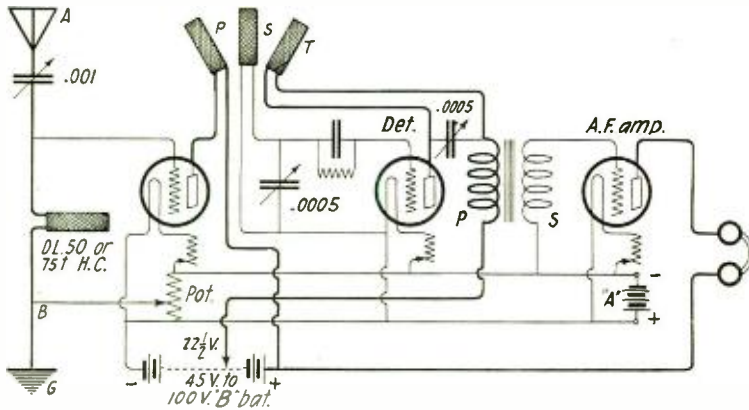
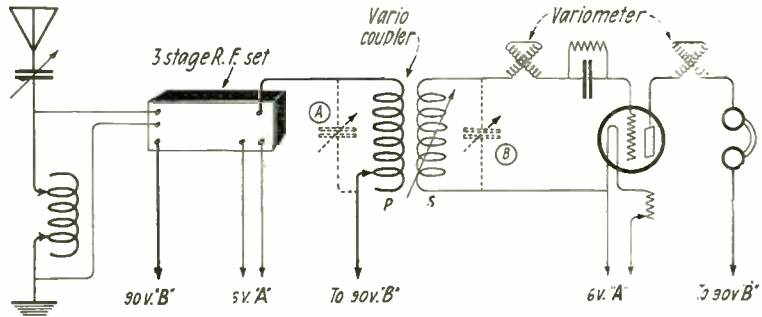

Figure 1—Hook-up of one step of radio frequency detector and one step of audio frequency amplification
Figure 2—Twin variometer regenerative set with 3 stages of radio frequency amplification
figure 1. By adding more tubes in the same way this may be made a three-stage, or any numbered stage amplifier. The audio frequency signal to be amplified is applied to the grid of the first tube. This audio voltage is repeated in the plate circuit of the first tube and an amplified voltage appears across the plate resistance R . This amplified voltage is then applied to the grid of the second tube through the grid condenser C_1 , and the voltage amplified still further by the second tube, and so on.
The proper values for the grid condensers and leaks are determined by definite considerations. If figure 1 is examined it will be seen that the grid circuit of the second tube is in parallel with the plate coupling resistance of the previous tube between points A and B. The impedance of the entire grid circuit must therefore be much greater than that of the plate resistance in order that the amplification be not influenced. The impedance of the grid circuit is determined by (1) the impedance of the internal grid-filament path of the
The same type of circuit and the same considerations apply for radio frequency amplifiers as for audio frequency amplifiers. But there is one great difficulty with radio frequency resistance coupled amplifiers at low wave lengths. The impedance of the grid-filament path of the tube is so low that it practically short circuits the plate coupling resistance, and hence destroys all amplification. To illustrate with a numerical example, suppose that the plate resistance R in figure 1 is 60,000 ohms. In present day tubes the tube capacity is of the order of .000010 microfarad, and at 300 meters the reactance is about 16,000 ohms. These 16,000 ohms are in parallel with 60,000 ohms plate coupling resistance, and therefore the effective plate impedance is decreased to less than 16,000 ohms with the result that amplification is considerably reduced. This effect is greater as the
There are several different arrangements of this circuit which have been published and tried out; for instance a variable condenser of the 23 or 43-plate type may be used across the primary coil, but this set works very well with a .0005 mfd. variable condenser connected across the secondary, and a similar variable condenser connected across the tickler. The latter should of course be of the vernier type, as this control is very critical. If but one stage of audio-frequency is used, as indicated at figure 1, then the audio frequency transformer utilized should have a fairly high ratio, say 5 or 6 to 1, and it will be found the most satisfactory to purchase a good sized transformer, several of which are now available on the market, have a lower resistance for one thing than the smaller transformers, and owing to the greater quantity of large sized copper wire used in winding the primary and secondary coils, together with the lower flux density in the iron core, the operating efficiency is improved all around,
Figure 1 shows a circuit which several friends of mine have been using for a year or more and which I have also tried out. This circuit provides one stage of inductively coupled radio-frequency amplification, and one stage of audio-frequency amplification. A second stage of audio-frequency can be added to operate the loudspeaker when desired. Referring to the diagram, it will be seen that a loop shunted by a .001 mfd. variable condenser, preferably of the vernier type, may be shunted across the grid and filament circuit at A and B, or else an out-
FROM the number of requests which we receive daily we gather that the one tube super is still popular as ever. Diagram of this set is shown in figure 1. The loop is tuned with a 23 plate variable condenser preferably with some means of vernier adjustment. A Hammarlund would be particularly fitting here. The two honeycomb coils 1500 turns each are a necessary part of the circuit.
IN figure 2 is shown an external oscillator which can be used with excellent results with most any radio frequency receiver. This oscillator consists of 40 turns of No. 24 double cotton covered wire wound on a three inch in diameter cardboard tube. Three eighths of an inch from this coil another winding is placed consisting of six turns of No. 20 double cotton covered wire.
ally resemble a boarding-house hash of all stations at once regardless of the frantic manipulation of the wavelength dial. This is due to some extent to the sensitivity of the receiver and also to the resistance of the tuning circuit which in this case happens to be the conventional single circuit shown in figure 1, and consists of a fifty turn honeycomb coil or variometer tuned by means of a series or shunt condenser. In figure 1, the antenna circuit is really the only tuned circuit in the whole receiver, while the grid circuit of the first radio frequency tube which should be sharply tuned is in reality fixed at the frequency of the coil. In figure 2, the antenna circuit and the grid circuit are both tuned simultaneously, but can never be brought into absolute resonance. The wavelength to which the grid circuit is tuned is determined by the capacity of the condenser and the inductance of the coil, while the frequency of the an-